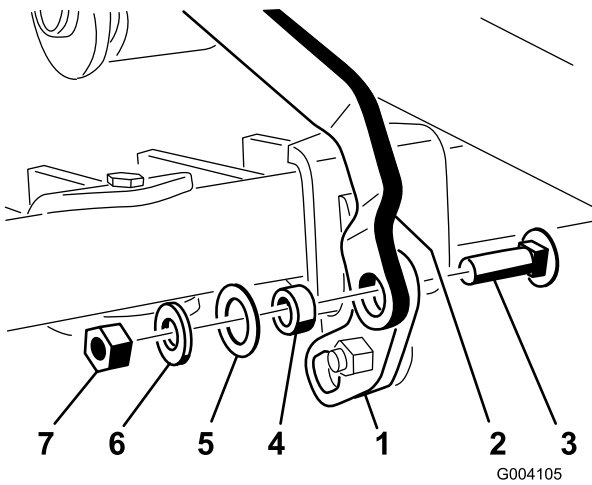

Figure 16
- With the lift pedal assembly knee bent upwards, install the square hole on the pivot tab to the end of the toolbar link using a carriage bolt (3/8 x 1-1/4 inches), a spacer, a washer (1 inch), a washer (13/16 inch), and a locknut (3/8 inch) as shown in Figure 16.
6. Install the eccentric bolt through the bottom of the pivot tab and the pivot bracket, and secure it using a locknut (5/16 inch) (Figure 16).